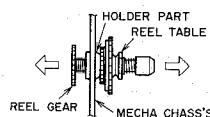

Fig. 3-6
1) Pull up the REEL TABLE and REEL GEAR in the direction of the two arrows (↑) as shown in Fig. 3-6.